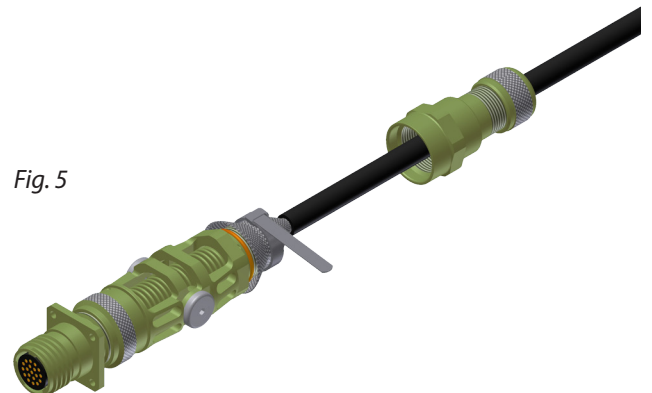
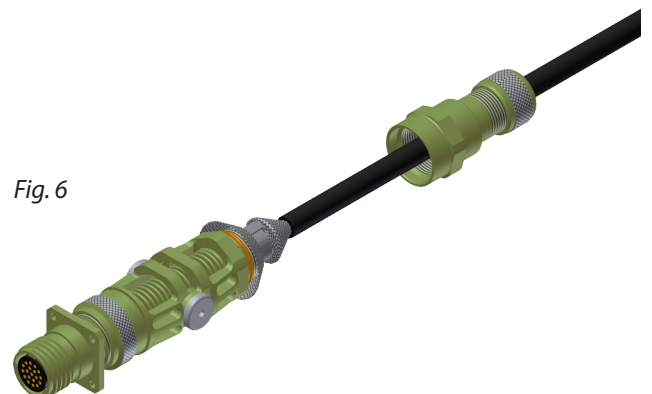

Fig. 5
Fig. 6
**Shielded electrical cable applications:** End of cable jacket should measure  $\frac{3}{8}'' \pm \frac{1}{8}''$  from conical end of main backshell body assembly to cable jacket (with service loop length contained inside backshell). **(See figure 2)** Un-tape cable-shield and fold forward over conical end and banding platform, ensuring even 360° distribution. Prepare termination-band and installation tool, positioning over shield in the center of the banding platform. **(See figure 5)** Complete band termination, ensuring cable jacket end remains  $\frac{3}{8}'' \pm \frac{1}{8}''$  from conical end of main backshell body. **(See figure 6)**